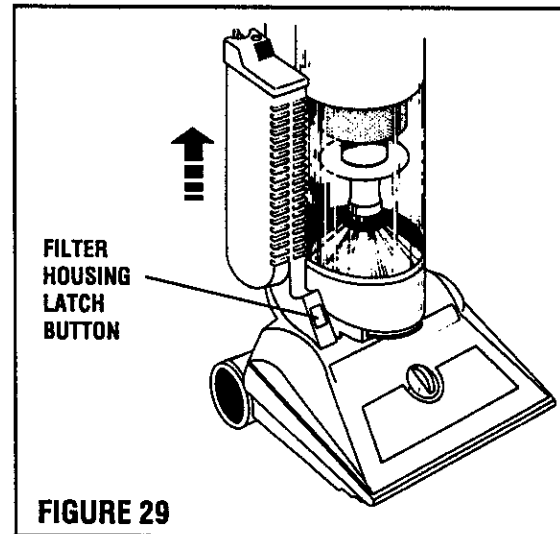

FIGURE 29
2. If dis-assembly of the Filter Housing is required, press in the Filter Housing Latch Button and slide the Filter Housing upward until free. (Figure 29)